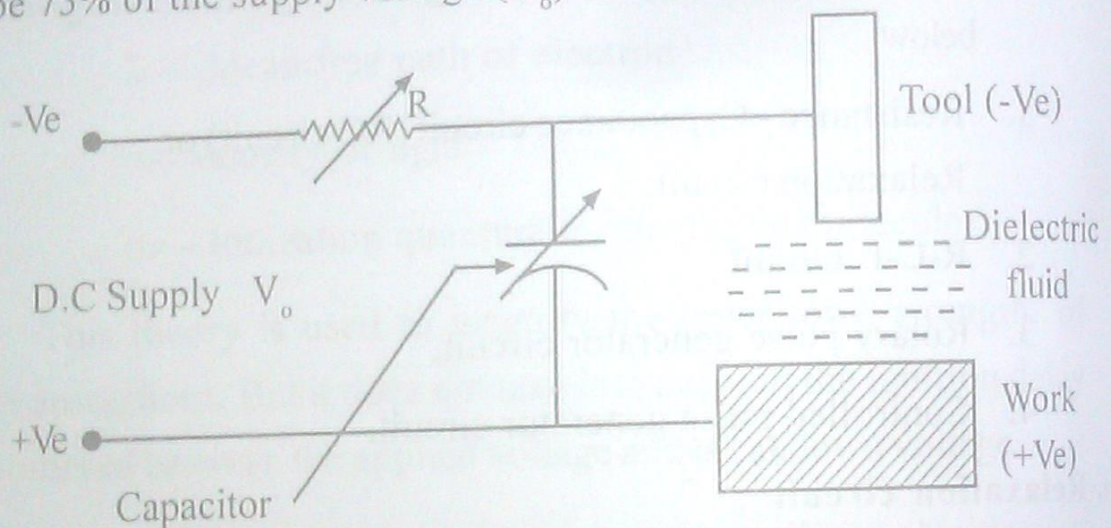

Fig. 3.3 Basic R-C Relaxation circuit
- Its primary function is to convert an alternating current (AC) into a pulsed direct current (DC) which is required to produce the unidirectional spark discharges between the gap of the tool and workpiece. A rectifier is used to convert the AC into DC.
Fig 3.3 shows the operation of Resistance – Capacitance (R-C) generator circuit. This type of generators are quite common because of its simplicity and lower cost. In this system, Direct Current (D.C) is flowing through a resistor (R) and it charges the capacitor (C). The charged capacitor is connected to the machine. When the voltage across the capacitor is sufficiently high (50 to 200V), dielectric medium breakdown occurs. So, the dielectric medium between the tool and workpiece is ionized and spark takes place. Millions of electrons are developed in each spark. During sparking period, the voltage falls and it again starts rising (since the capacitor is charged again) as shown in fig. 3.3.